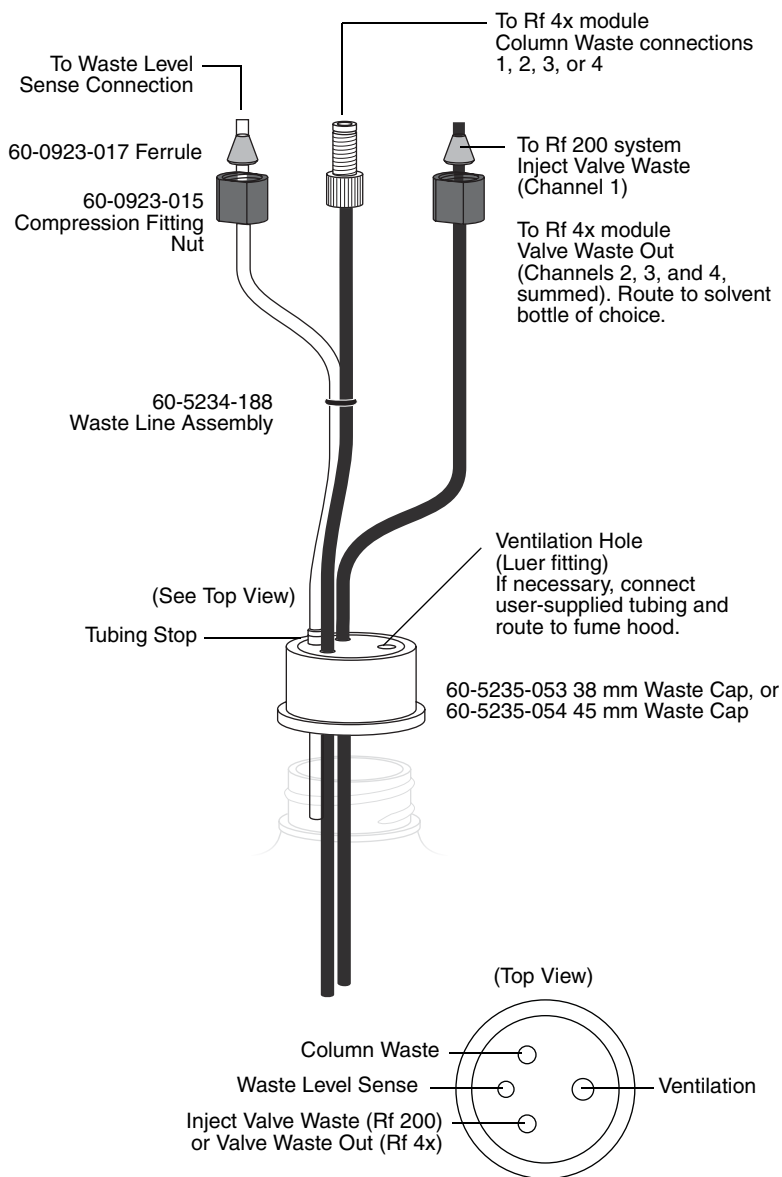

Figure 4-4 Recommended Rf 4x module waste connections
- c. At the waste container cap for channel 1 insert the black tubing into the Diverter Valve Waste opening and the natural tubing into the Waste Level Sense opening (Figure 4-4). Push the stop on the Waste Level Sense tubing against the cap. This ensures that the Waste Level Sense tubing is far enough into the container to detect when it is nearly full.
6. Using the three remaining waste line assemblies and waste caps, complete the waste connections for channels 2 through 4. (See Figure 4-4.)